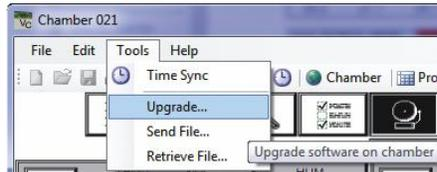

Figure 4-46 Tools Upgrade
1. From the **Tools** menu, select **Upgrade** (Figure 4-46). The upgrade dialog box appears.